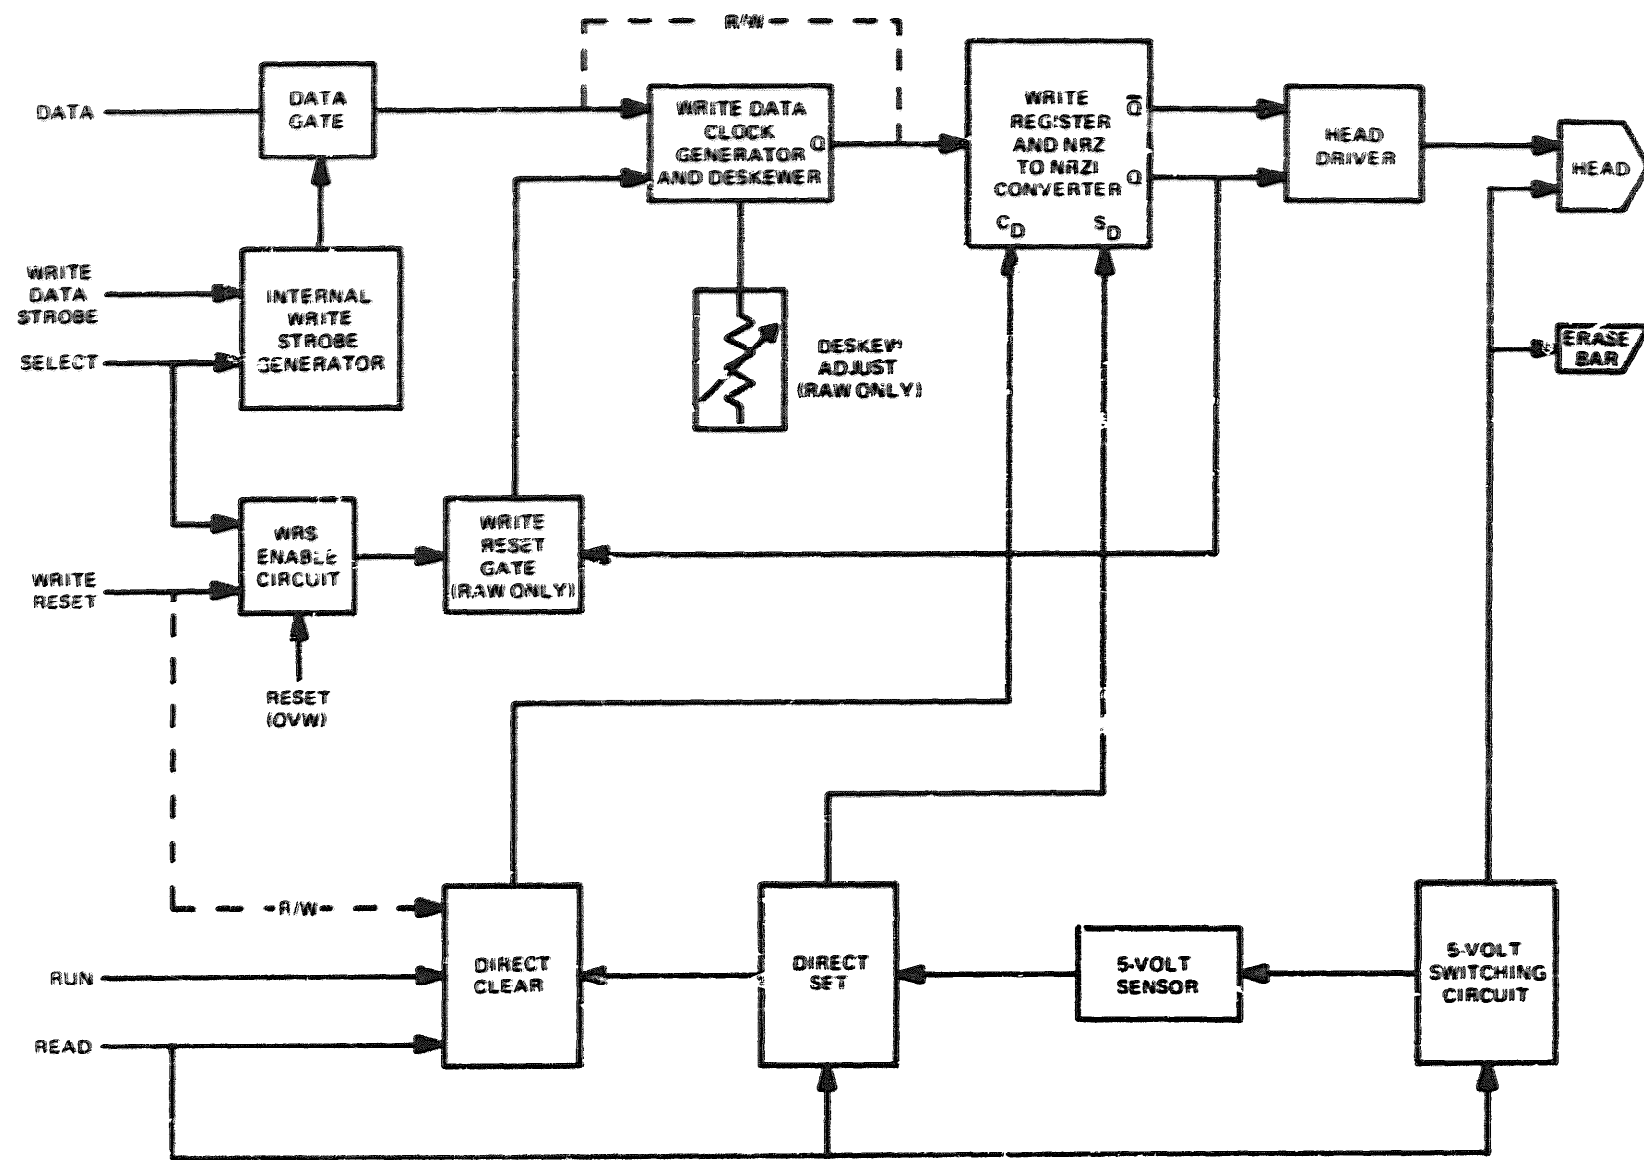
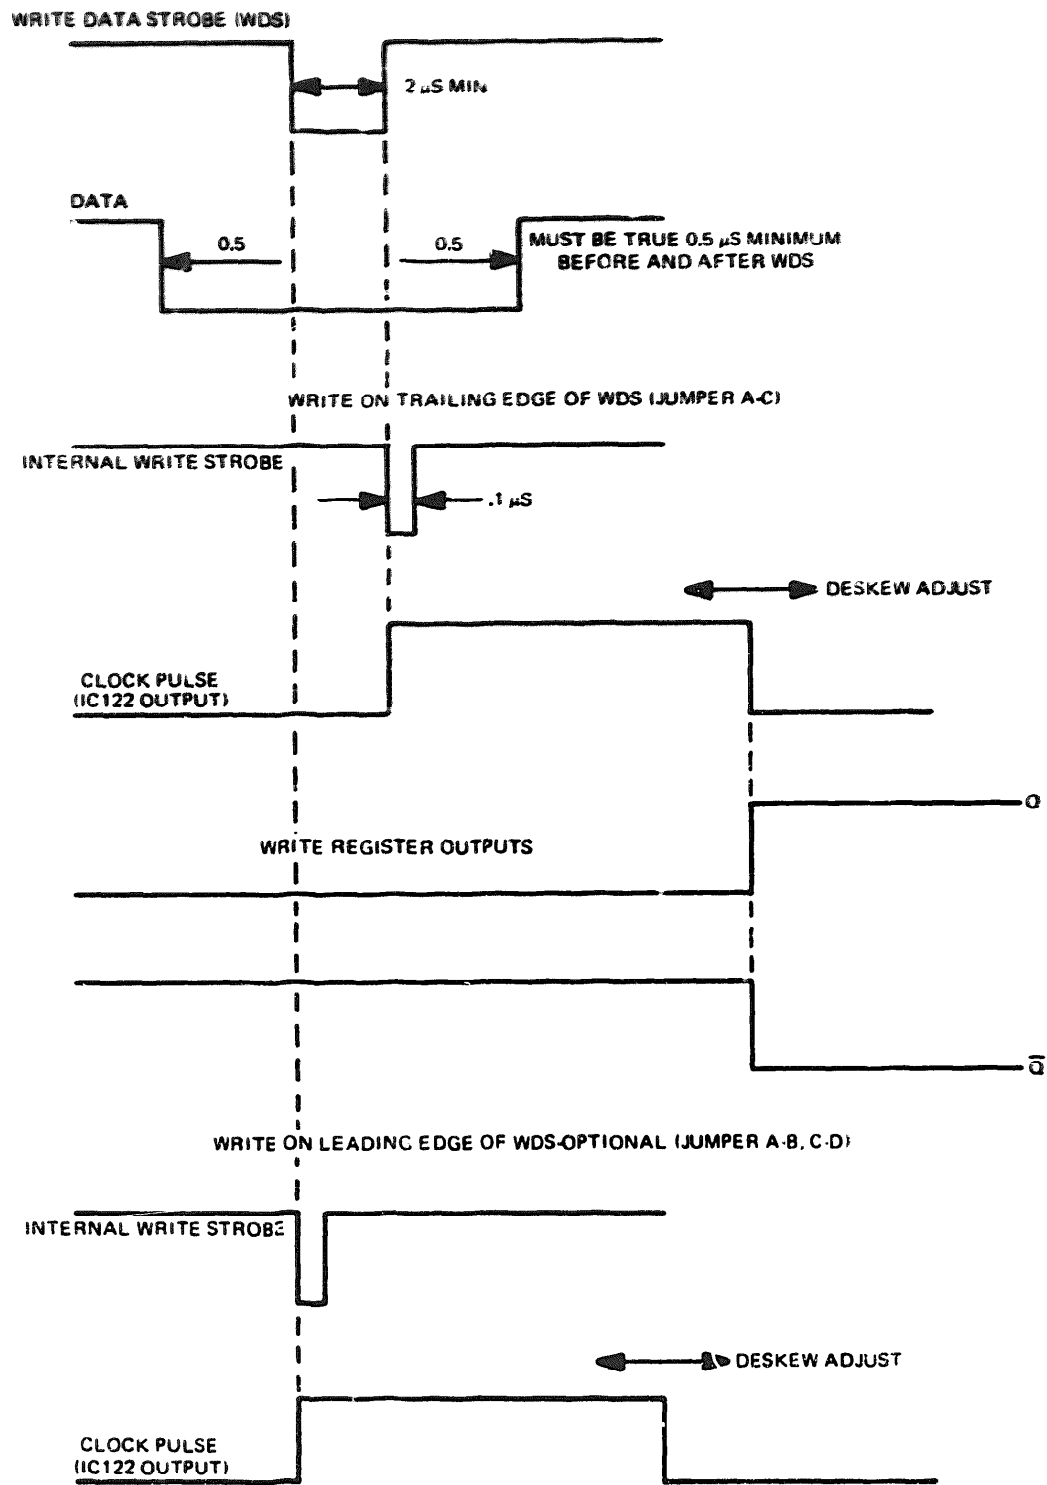

Figure 4-7. Data Recording Block Diagram
Figure 4-8. Data Timing Diagram
4-37. **Five inputs to the write circuitry, in addition to the seven or nine data channels, are required for writing** Figure 4-7. The customer supplies the Write Data Strobe (WDS), Write Reset (WRS) and Select inputs. The WDS triggers the internal write strobe monostable, IC102, which in turn strobes the data into the write deskewing circuit. The WRS senses the condition of the write flip-flops and clocks them to a reference condition to create the Longitudinal Redundancy Check Character (LRCC) at the end of each record. The Reset input is routed from the control logic and is synonymous with WRS. It is used only with the overwrite option as desired by the customer. Select, which is routed from the control logic is required to enable the WDS and WRS inputs. \overline{RUN} and \overline{READ} inputs are generated in the control logic and control the write register Direct Set (SD) and Direct Clear (CD) circuitry. The following description is keyed to track 0, but is applicable to all tracks. See timing diagram, Figure 4-8.
4-38. **DATA INPUT.** A low pulse or level applied to J102, pin M, in conjunction with the WDS, is considered to be a binary one. This low is inverted by IC100B and applied to the data gate, IC108C, to be strobed into the deskew monostable. The internal write strobe is derived from a monostable, IC102, which is triggered from the WDS applied to J102, pin A, inverted by IC103E. The internal strobe generator may be triggered by either the leading or trailing edge of the WDS (see Figure 4-8 for proper jumper connections). The \overline{Q} output of IC102 is inverted by IC101A and applied as a high level strobe to the data gate, IC108C. With a binary one (high) also applied to the gate, a low pulse is generated at the output which is used to trigger the deskew monostable, IC122. Obviously, if a binary zero is to be generated, the data gate input will be low at the time of the write strobe, inhibiting the strobe and preventing the monostable from being triggered.
4-43. NRZ TO NRZI CONVERSATION. The use of J-K flip-flops in the write register allows for input data to be presented in NRZ form. The Q and \overline{Q} outputs are coupled back to the J and K inputs assuring that the flip-flop will toggle each time a clock is received causing a "1" to be written. Since the clock is independent of the data input, the data line may remain low or high for consecutive "ones" or "zeros". The only restriction is that the conversion of the data must occur at least 0.5 microsecond before or after the WDS (see Figure 4-8)